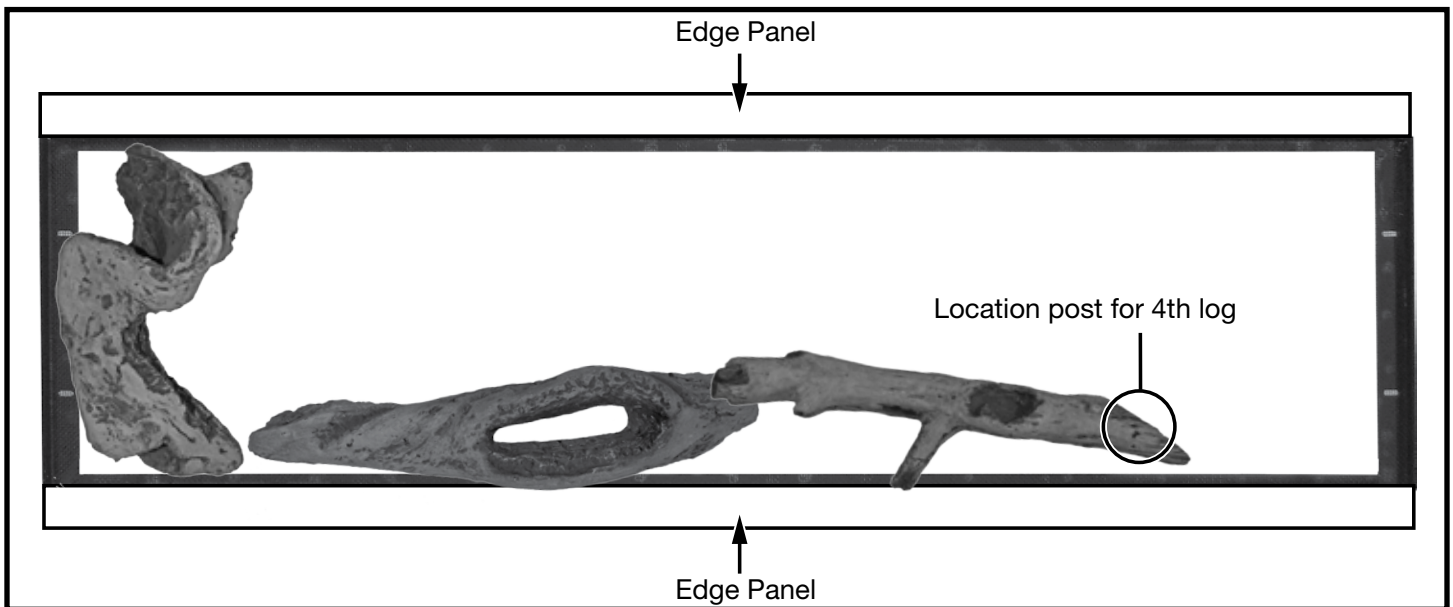

Figure 23: Log 3 placement.
3. The 3rd log has a socket on the bottom of one end which will fit onto the location post of the 2nd log. Once the socket and location post have been mated, move the opposite end of the 3rd log toward the edge panel so that its' middle branch is resting on the edge panel (Figure 23).